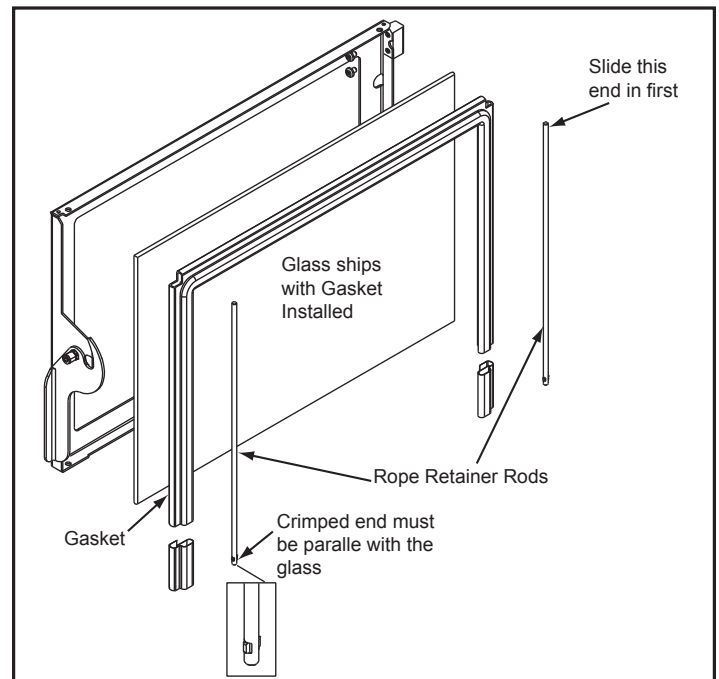

Figure 23.2
4. Slide the retainer rod into the top hole first, and then line up the bottom crimped end with the hole in the door. The crimped end must be parallel with the glass in order to insert it into place. **Figure 23.2.**